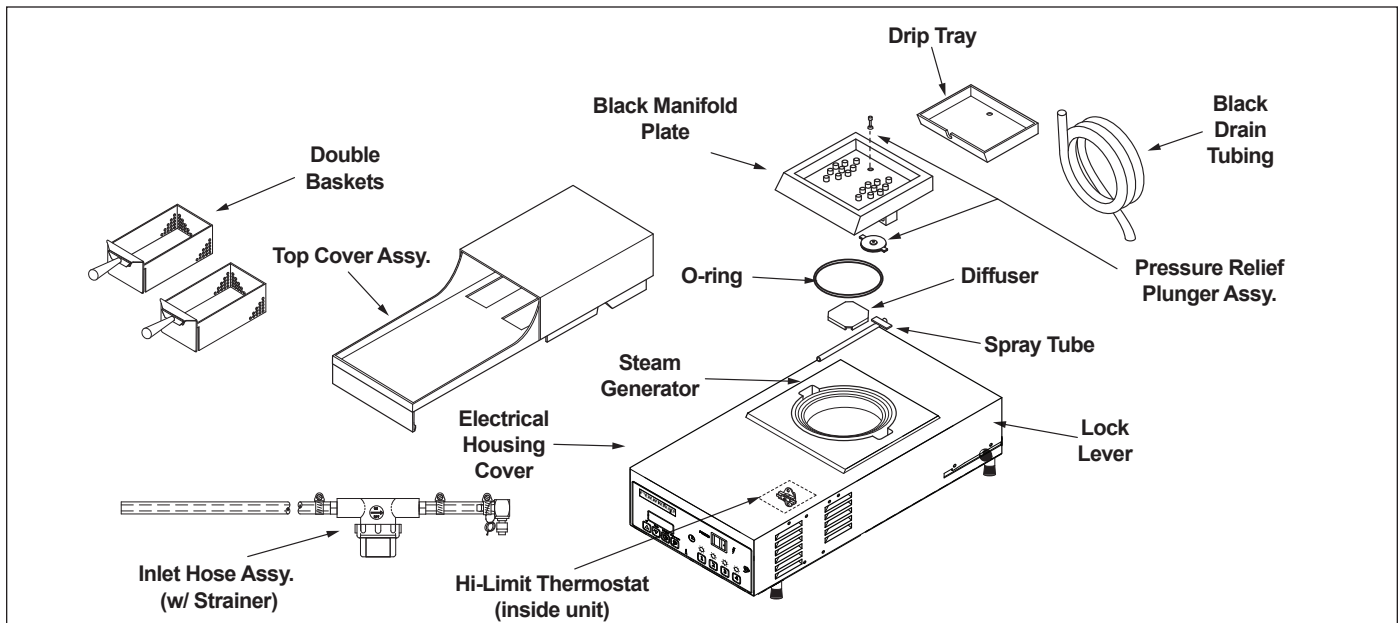

Figure 8. Steamer Components & Accessories
If the Generator overheats for any reason, the Hi-Limit Thermostat cuts off power to the Generator. This can be reset by turning the unit off, unplugging the power cord, and allowing the unit to cool for 45 minutes. Remove the Baskets and Basket Housing. Flip the unit over and carefully remove the Front Control Housing. Then press the Hi-Limit's red reset button (Figure 8). If the Hi-Limit Thermostat requires continuous resetting, contact your Authorized Service Agency
3. Remove the Baskets, Top Cover Assembly, and Drip Tray (Figure 8). Wash in hot, soapy water, then rinse and allow them to air dry.
4. Lift and slide the Locking Lever (Figure 8) towards the rear, and then carefully remove the Black Manifold Plate. Then remove the large black O-ring from the plate.
3. With the unit cool, use a non-abrasive brass brush and/or scraper to loosen and remove the excessive calcium/mineral deposits from the Generator surface (Figure 8). Wipe the Generator with a clean damp cloth. Reassemble the unit.
4. Wearing protective eyewear and gloves, pour delimer solution (not supplied) onto the Generator surface (Figure 8). Be sure to follow the delimer manufacturer's directions for proper mixture and use.